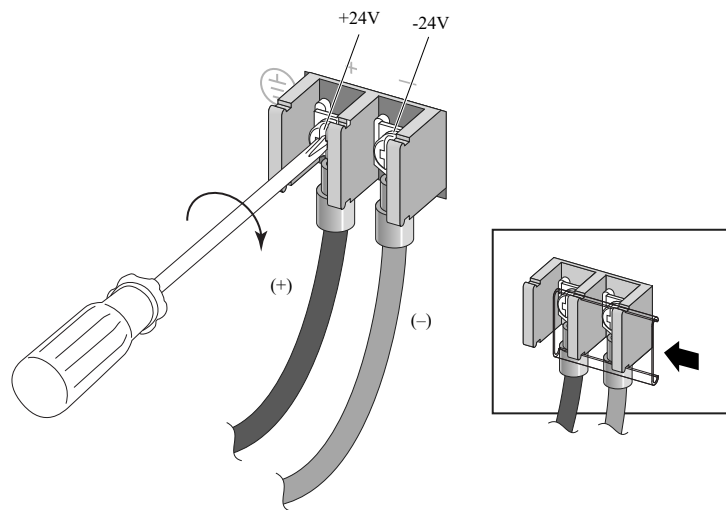

Figure 289: Connecting the DC Power Cables: Part 2
- d. Tighten both screws on the terminal block to 15.9 in-lb (1.8 N-m) as shown in Figure 289.